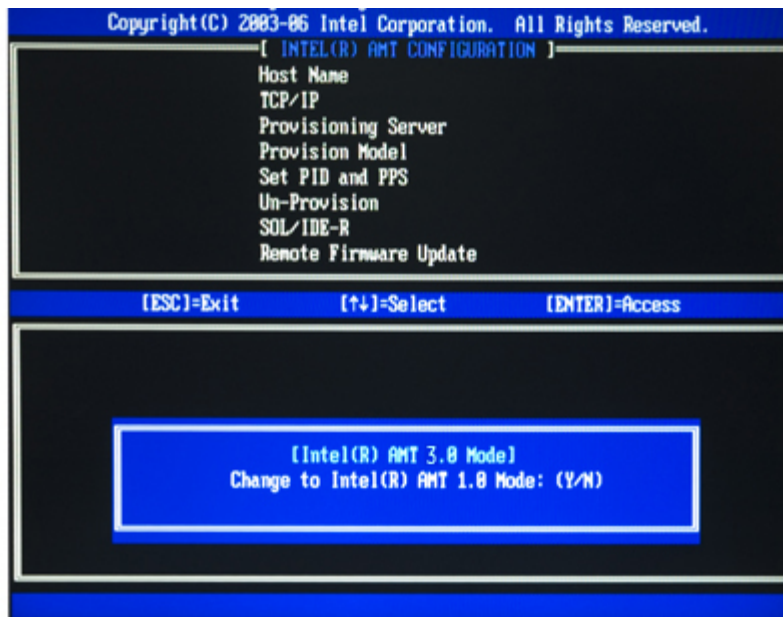

Figure 6-7: Intel® AMT 3.0 Mode
Step 10: When the screen in Figure 6-7 prompts, enter N and press Enter.